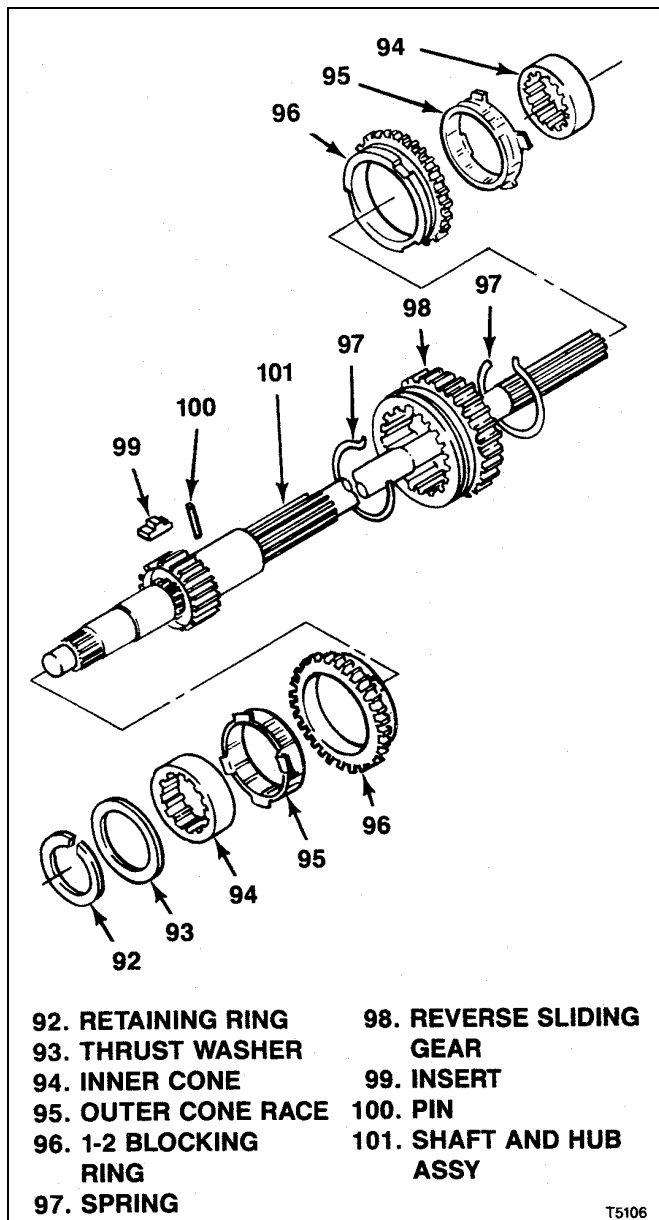
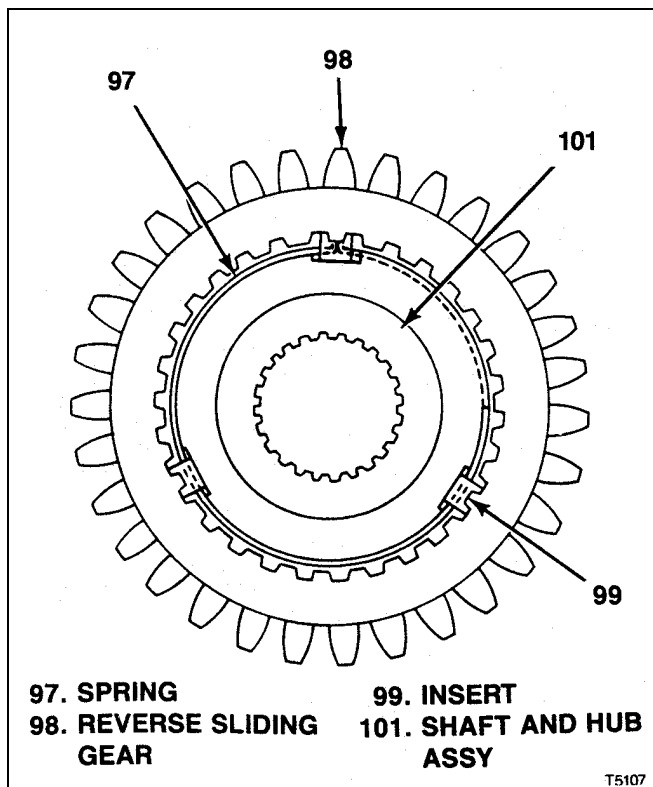

Figure 6-7. T5 WC Output Shaft Assembly
Figure 6-8. Reverse Sliding Gear Assembled
On work bench, assemble output shaft assembly as follows (see figure 6-7):
- a. Install pin (100) in shaft and hub assembly (101).
- b. Be sure to assemble reverse sliding gear (98) and hub on shaft and hub (see assembly (101), aligning marks made at disassembly figure 6-8) so that clutch teeth and part faces are assembled exactly as they were originally.
- c. Start reverse sliding gear (98) onto hub on shaft and hub assembly (101) to a position that will just permit installation of inserts (99). Install inserts (99) then engage clutch teeth fully.
- d. Hook one end of one spring (97) under one of the inserts (99) and wrap around inside, under all three inserts. Hook other end of spring under insert (see figure 6-8).
- e. At other side of assembly hook remaining spring (97) under opposite end and side of same insert (99) where step d was started by wrap around inside in opposite direction from step d, under all three plates. Hook other end of spring under insert (99) (see figure 6-8).
- f. Position reverse sliding gear (98) and inserts (99) so that all inserts snap into neutral position.
- g. At each end of shaft and hub assembly (101) install 1-2 blocking ring (96), outer cone race (95) and inner cone (94), noting the correct position and location of these parts as shown in figure 6-7. Be sure to align blocking ring notches with inserts (99).
- h. At second speed end of shaft and hub assembly (101), install thrust washer (93) and retaining ring (92).